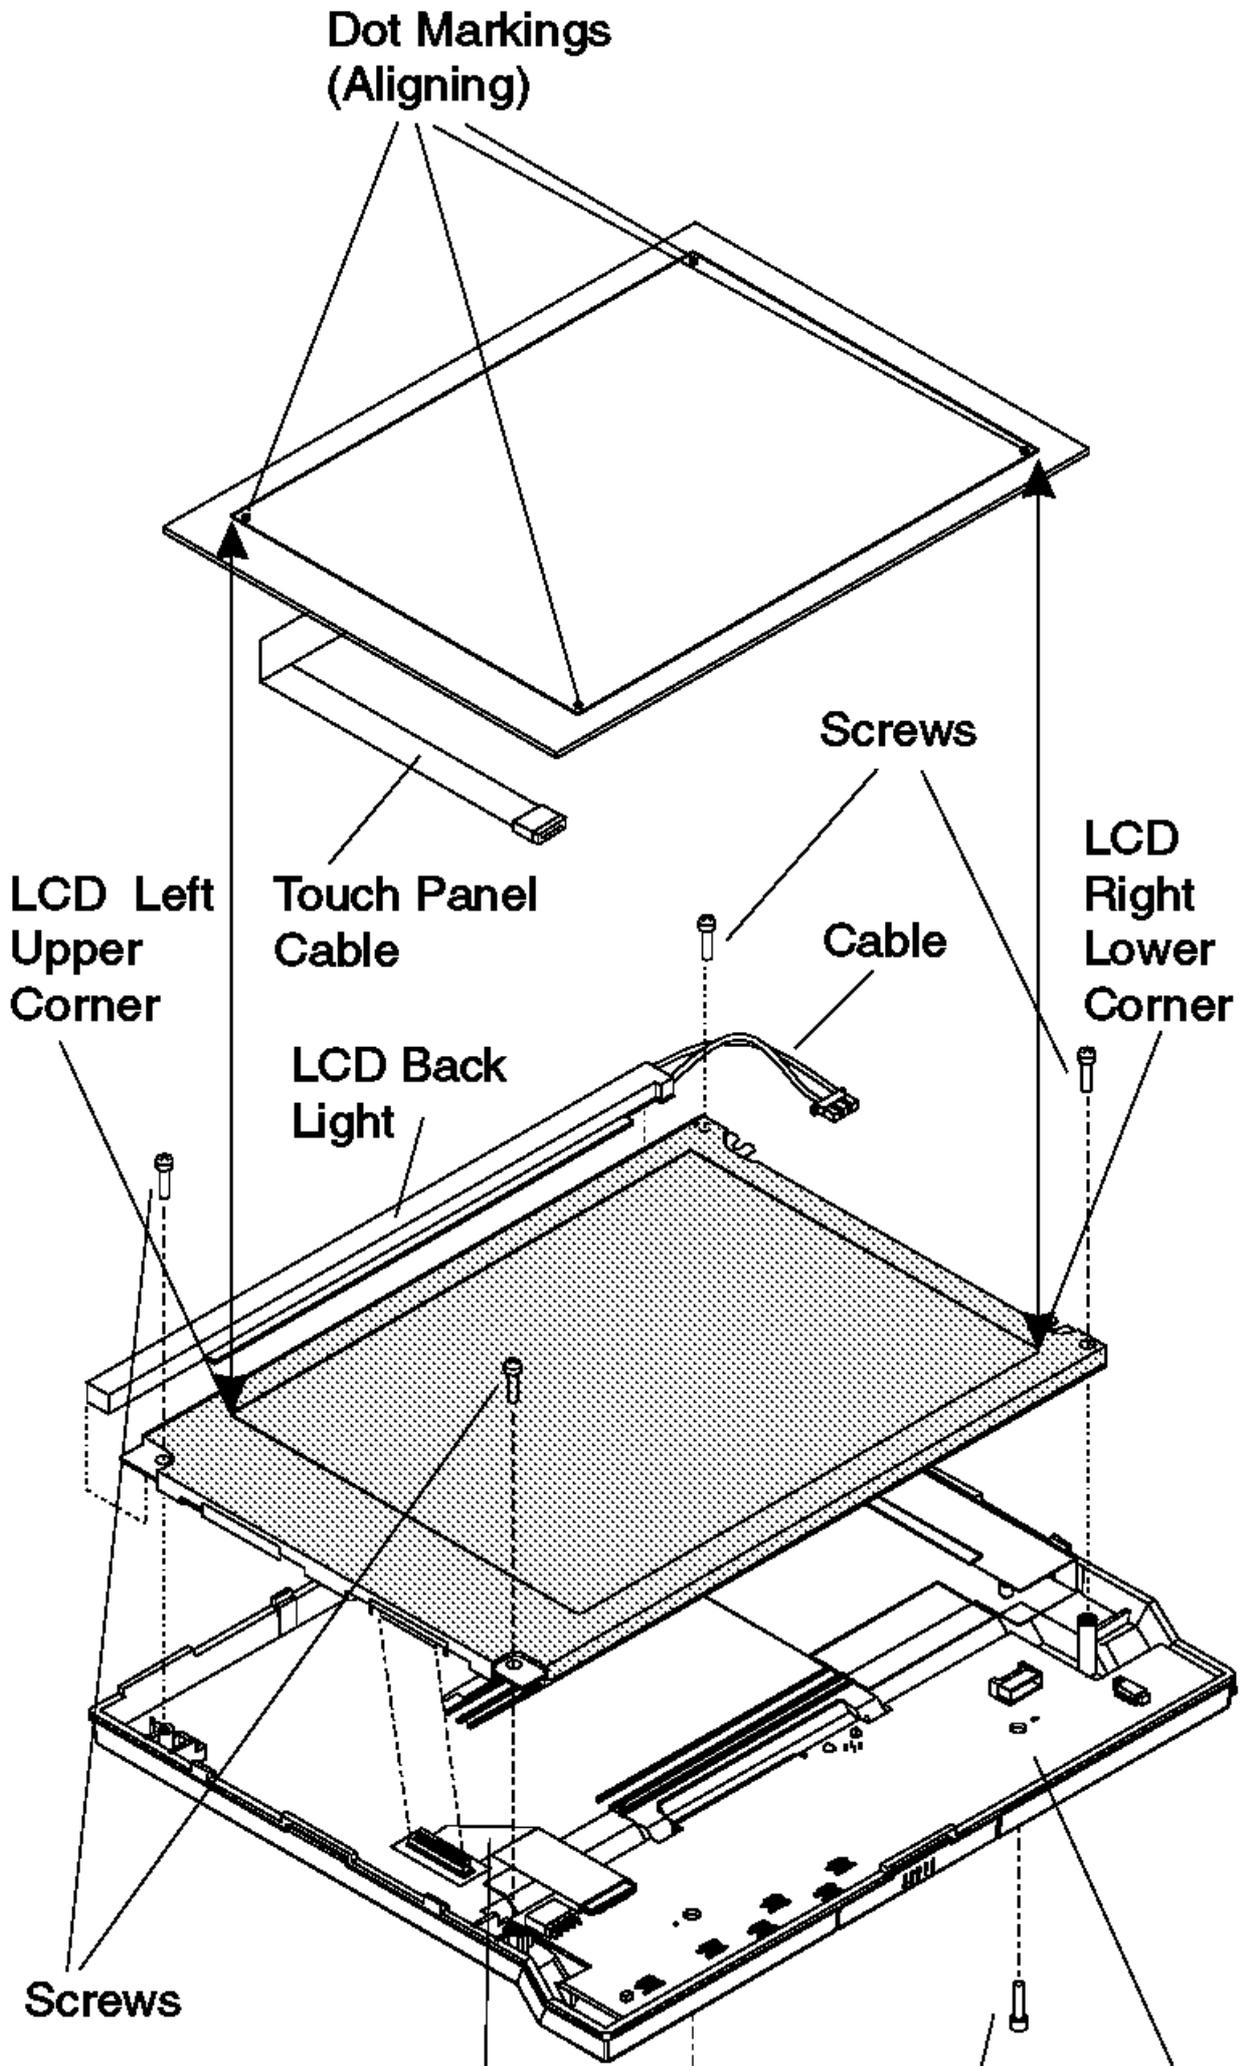

Figure 3-17. Removing the LCD module
3. Remove the four screws connecting the LCD module to the back cover. See Figure 3-17.
- Make sure that the touch panel scan area is adjusted to the LCD active area. See Figure 3-17.
1. Remove the LCD module assembly. See Figure 3-17 in topic 3.7.2. cover.